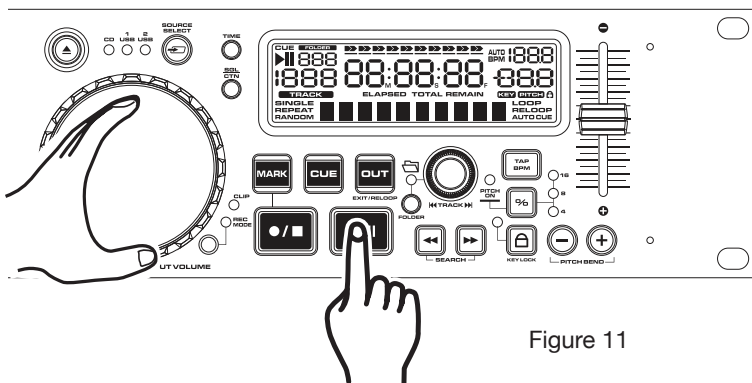

Figure 11
This feature allows you to scroll through a track to set a cue, or loop point. To use the scroll function you must first be in Pause Mode. Once you are in Pause mode, use your finger tip or hand to turn the *JOG WHEEL* (20) to scroll through the track (figure 11). Turning the wheel in a clockwise direction will advance the frame search and turning the wheel in a counter-clockwise direction rewinds the frame search. When you use the *JOG WHEEL* (20) the monitor (headphone level) of a mixer allows you to hear what you are scrolling through. Once you reach your desired starting point you can playback from this cue (starting) point by pressing the *PLAY/PAUSE BUTTON* (16) as in figure 11. Pressing the *CUE BUTTON* (18) will return the disc to the cue point just set.